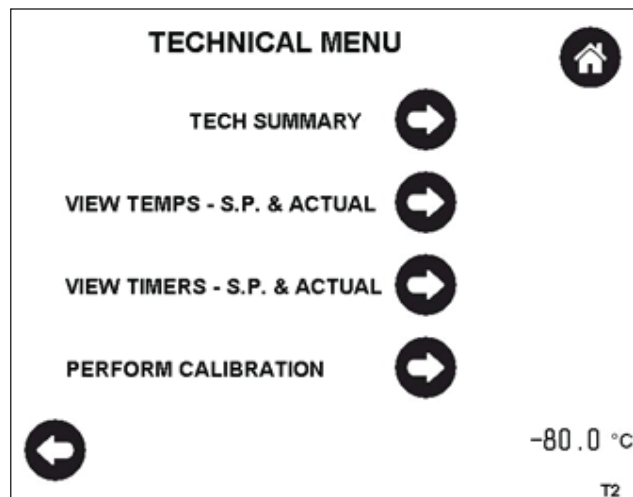

Figure 25: Technical Menu Screen
1. To set up the new user accounts and passwords for the first time, enter the Factory Administrator account information and press ENT. The display will return to the **TECHNICAL MENU** screen, as shown in Figure 25.